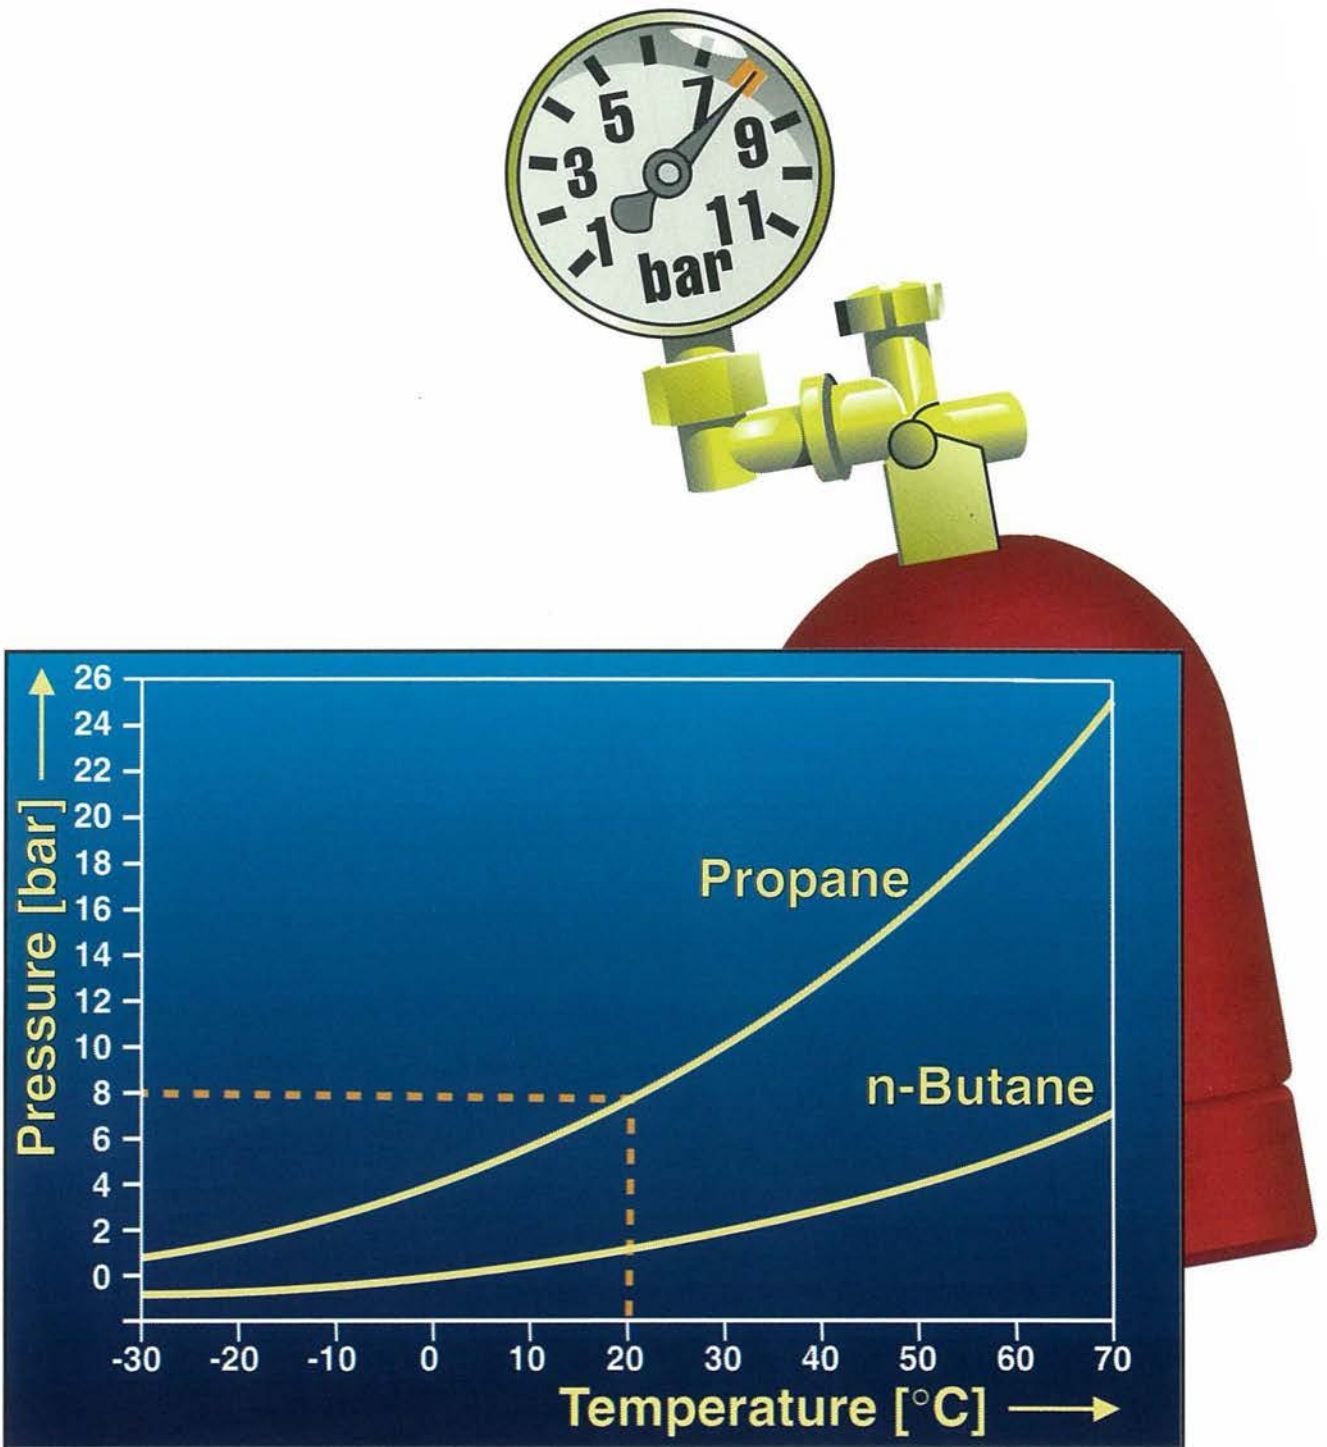

Fig. 8: Vapor pressure curves of propane and butane
- The pressure in liquefied gas containers such as tanks or cylinders depends only on the temperature (cf. vapor pressure curves, Fig. 8); thus, e.g. for propane approximately 8 bar at 20°C. Intense heating of the containers (e.g. due to the effects of an external fire or through internal container heating) leads to a massive increase in pressure in the container (see Fig. 9) and under certain circumstances can: